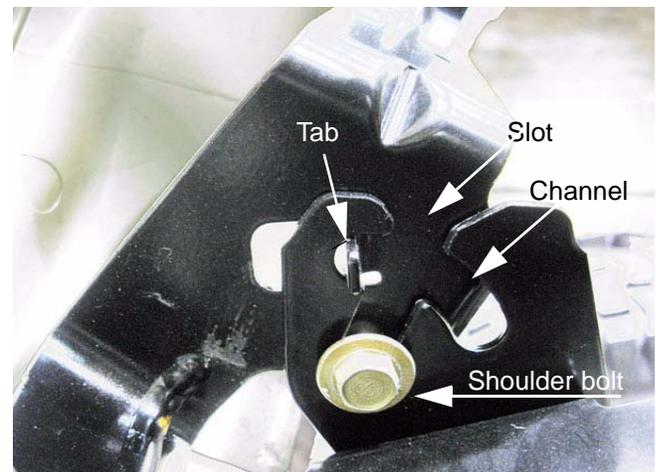

Figure 4.4
6. Open the hood far enough to align the tabs with the slots, then lift the hood off of the tractor. See Figure 4.4.